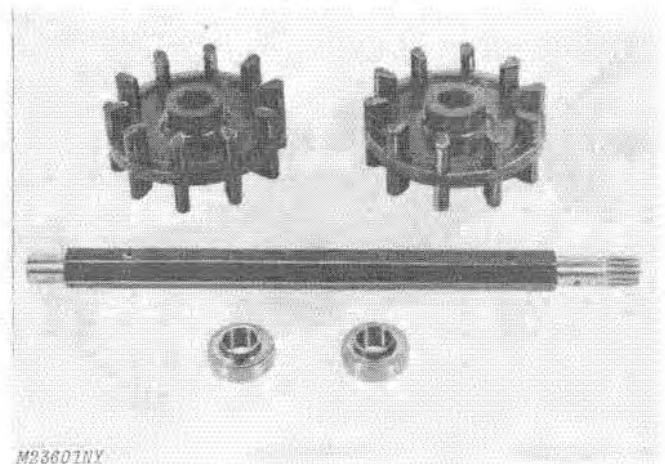

Fig. 15-Drive Shaft and Bearings
1. Check shaft bearing surfaces, Fig. 15, for evidence of bearings turning on shaft.
2. Inspect drive shaft bearings, Fig. 15. Replace them if they are binding, worn or noisy. Use a NEW O-ring on chain case bearing.